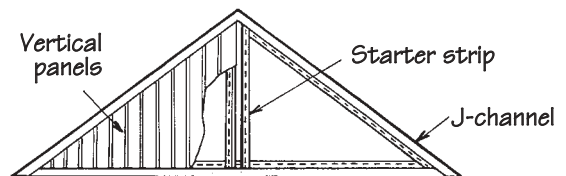

Figure 62.
- Attach either vertical siding starter strip or two back-to-back regular starter strips, centered with the peak of the gable (Fig. 62). This area should be flashed prior to installing the starter strips.